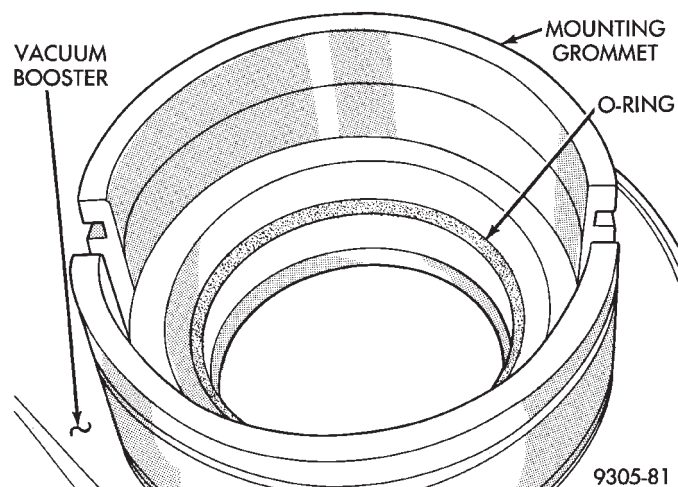

Fig. 5 Sealing O-Ring Location In Mounting Grommet
(2) Sparingly lubricate pedal travel sensor sealing O-Ring with fresh clean brake fluid. Then install pedal travel sensor sealing O-Ring in pedal travel sensor mounting grommet as shown in (Fig. 5).